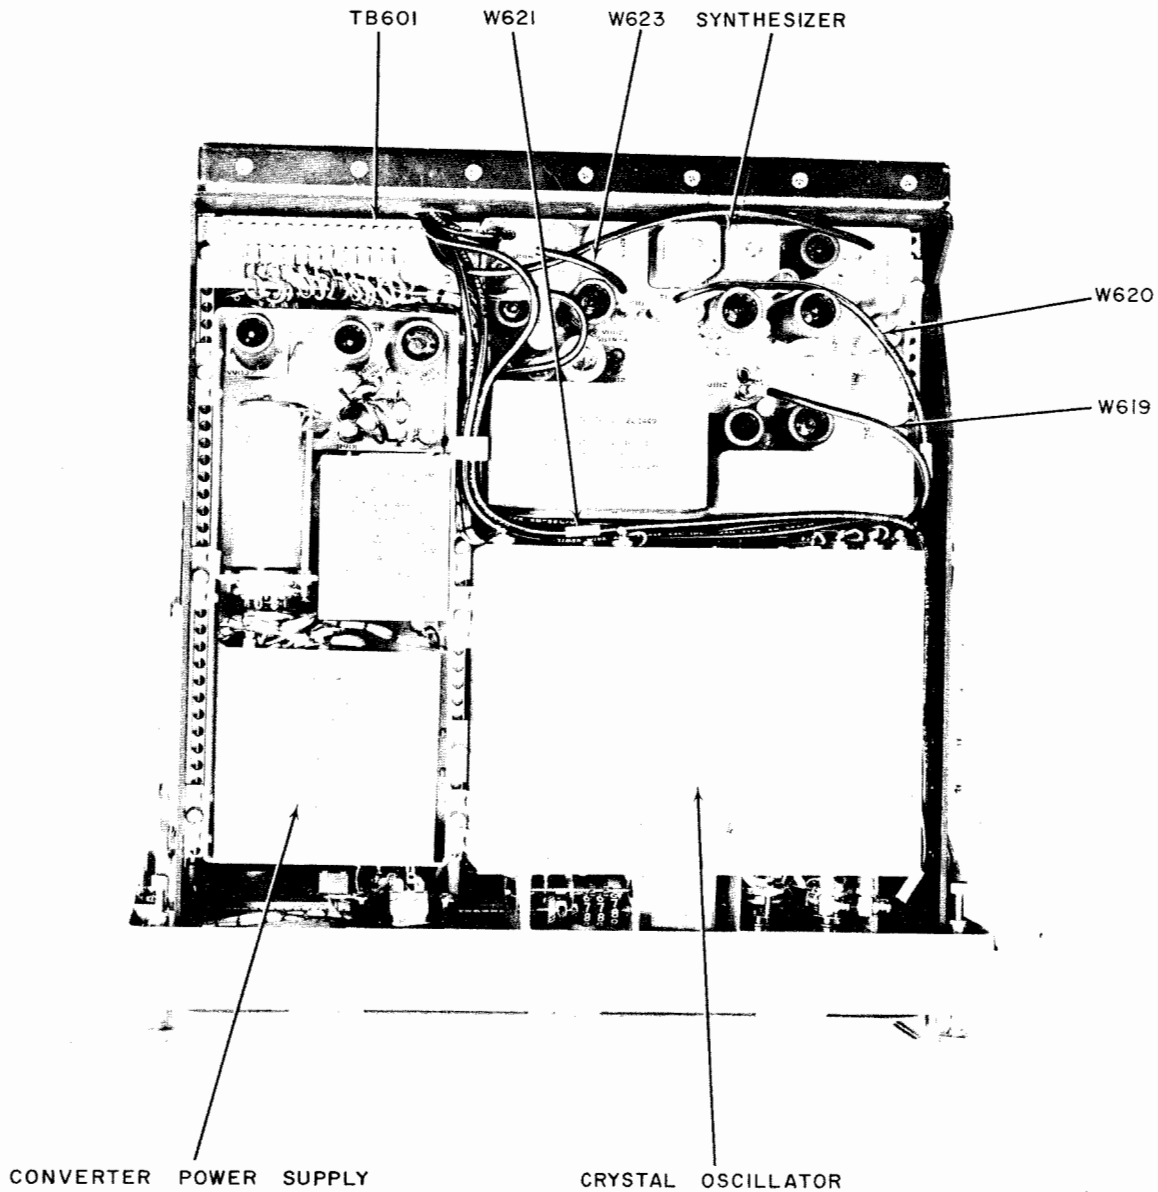

Figure 6-4. Converter Drawer, Upper Deck, Top View
(a) REMOVAL OF CRYSTAL OSCILLATOR SUBASSEMBLY. (See figures 6-4 and 6-5.)
(1) Set the synthesizer subassembly into place at the top of the upper deck in accordance with figure 6-4, and secure the subassembly to the upper deck.
(2) Connect plug P801 of coax cable W616 to jack J801; P804 of coax cable W623 to jack J804; P805 of coax cable W620 to jack J805; P811 of coax cable W619 to jack J811; and P815 of coax cable W617 to jack J815. Also secure bracket to apron of converter power supply to contain coax cables in place between synthesizer and power supply.
(3) Tilt the upper deck 70 degrees to expose the bottom of the subassembly.
(4) Solder coded leads to feed-through capacitors C803, C815, C830, and C832.
(5) Lower the upper deck to rest horizontally against top of lower deck. Push the converter drawer into its cabinet housing and lock it in place.
(11) CONVERTER UNIT POWER SUPPLY MAINTENANCE.